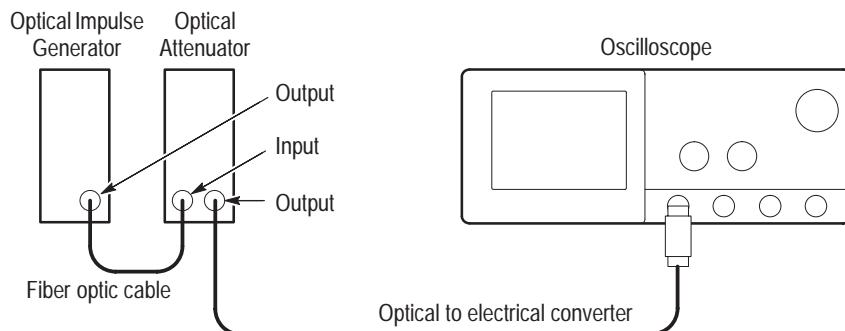

Figure 4-42: Reference-receiver performance-verification set up
- Connect the optical probe to CH 1 of the oscilloscope under test (see Figure 4-42).